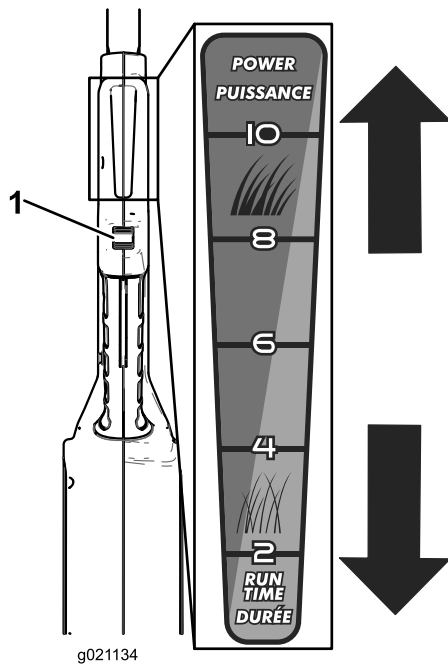

**Figure 8**
4. To start the trimmer, hold down the lock switch, then squeeze the trigger (Figure 8).
To stop the trimmer, release the trigger (Figure 8).